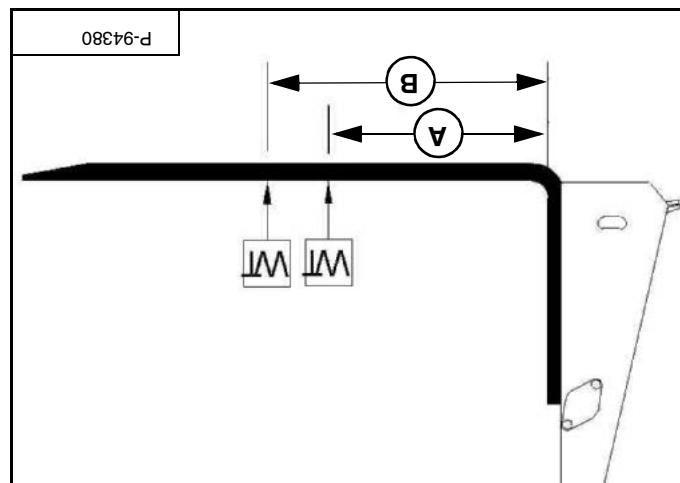

Figure 43
Load centres at (A) 400 mm (15.75 in) and (B) 610 mm (24 in) are both shown [Figure 43].